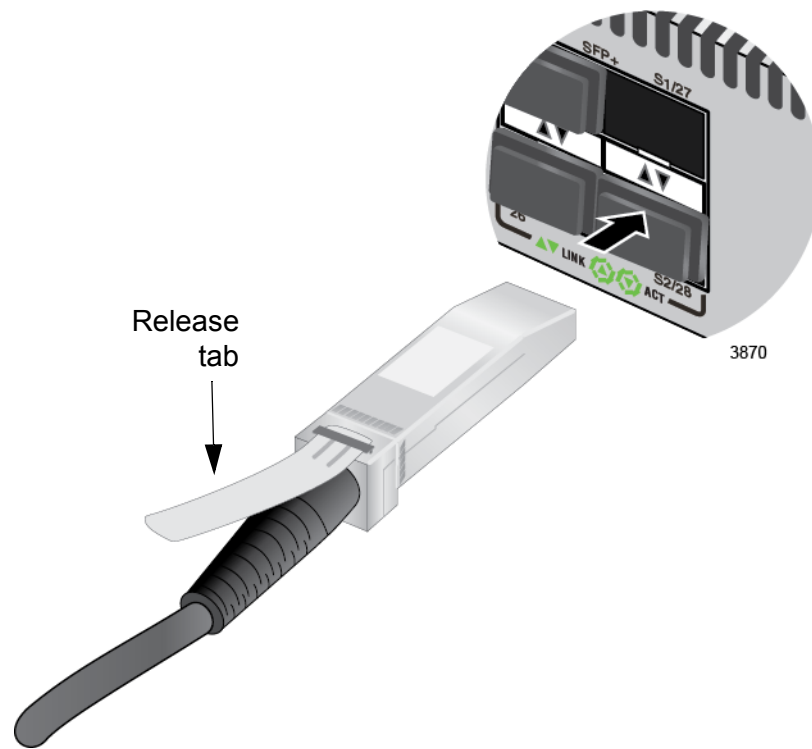

Figure 58. Installing a TwinAx Cable in Slot S1
4. Position the cable with the release tab on top and slide the cable into the slot, as shown in Figure 58.